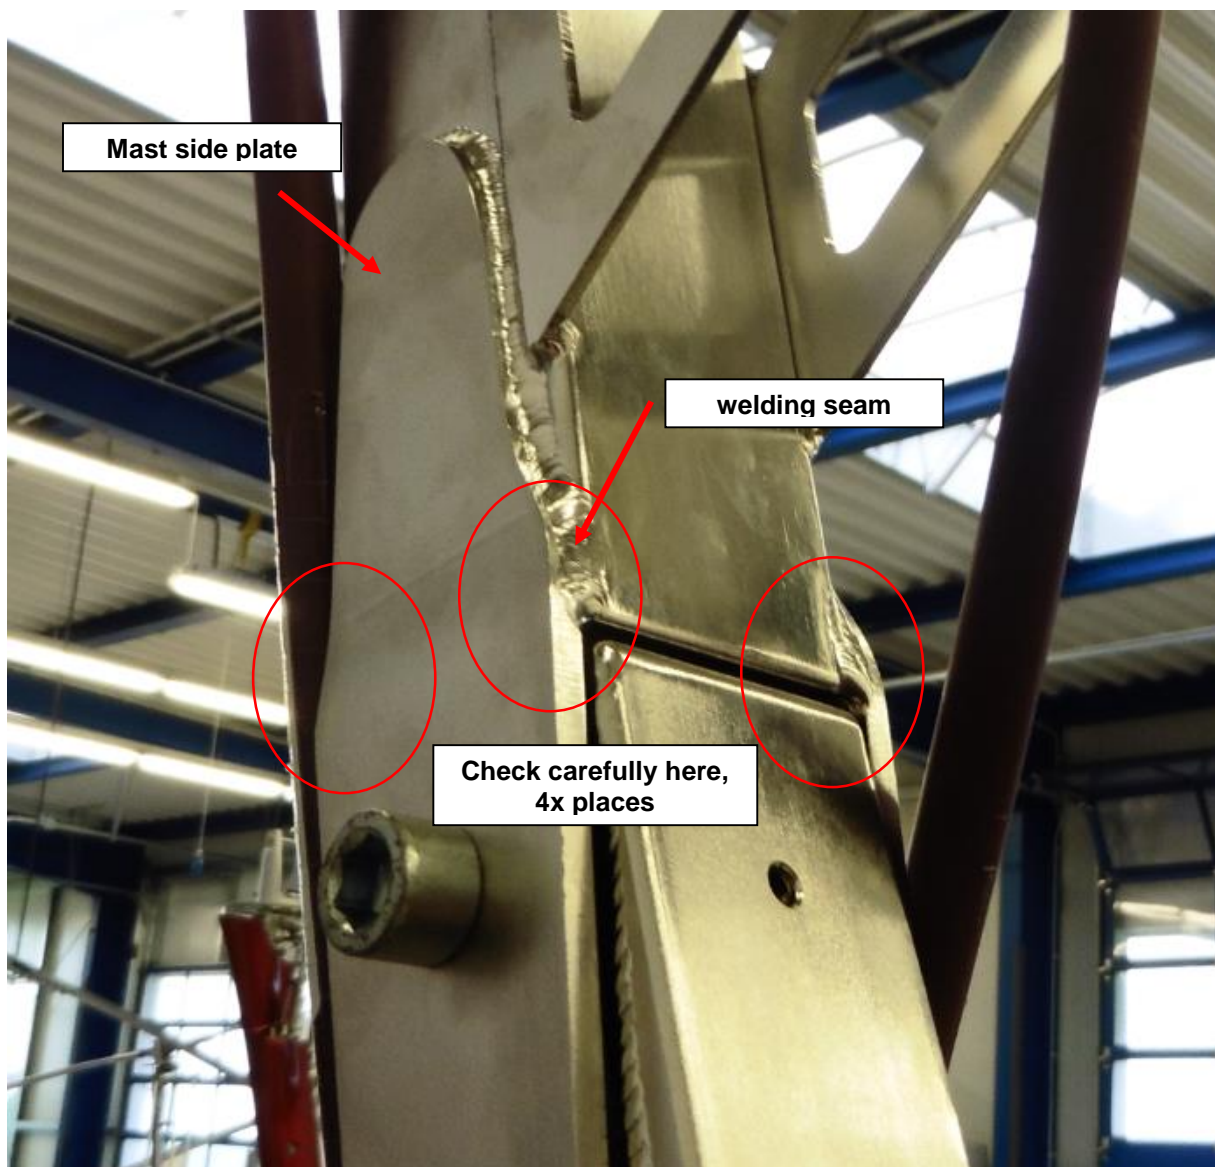

Fig 1: Calidus upper to lower mast connection new
The purpose of this SIL is to highlight the need to thoroughly check this part (see fig.1).
- check the upper to lower mast side plates thoroughly for cracks (see fig. 1 and 2)
- check the weld seams of the side plates to lower mast for cracks (see fig. 1)
- 2 Check the side plate and the weld seams of the side plates to the mast for cracks (see fig. 1 and 2). Use appropriate equipment such as magnifying glasses.